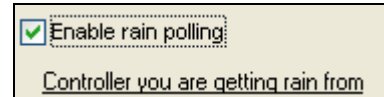

Figure 13.0.3
2. Click on the **Enable rain polling** button. This will enable the information windows on this screen (Figure 13.0.3).